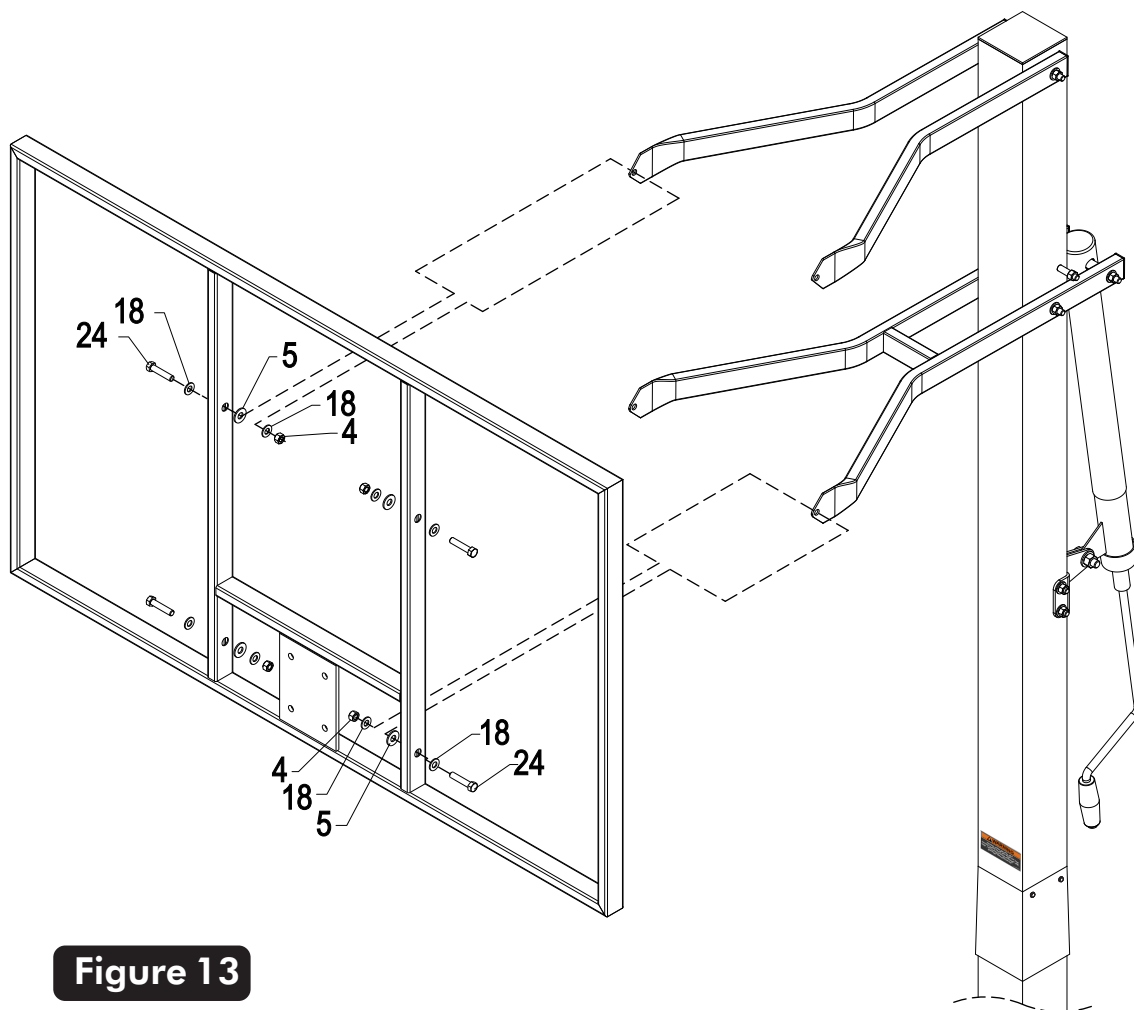

Figure 13
- 21.** With at least two capable people, raise the backboard assembly up and have the third attach Lower Board Arms to lower mounting tubes on backboard using two bolts (#24), two plastic washers (#5), four washers (#18) and two lock nuts (#4). See **Figure 13**.
- 22.** Attach Upper Board Arms to upper mounting tubes on backboard using two bolts (#24), two plastic washers (#5), four washers (#18) and two lock nuts (#4). See **Figure 13**.